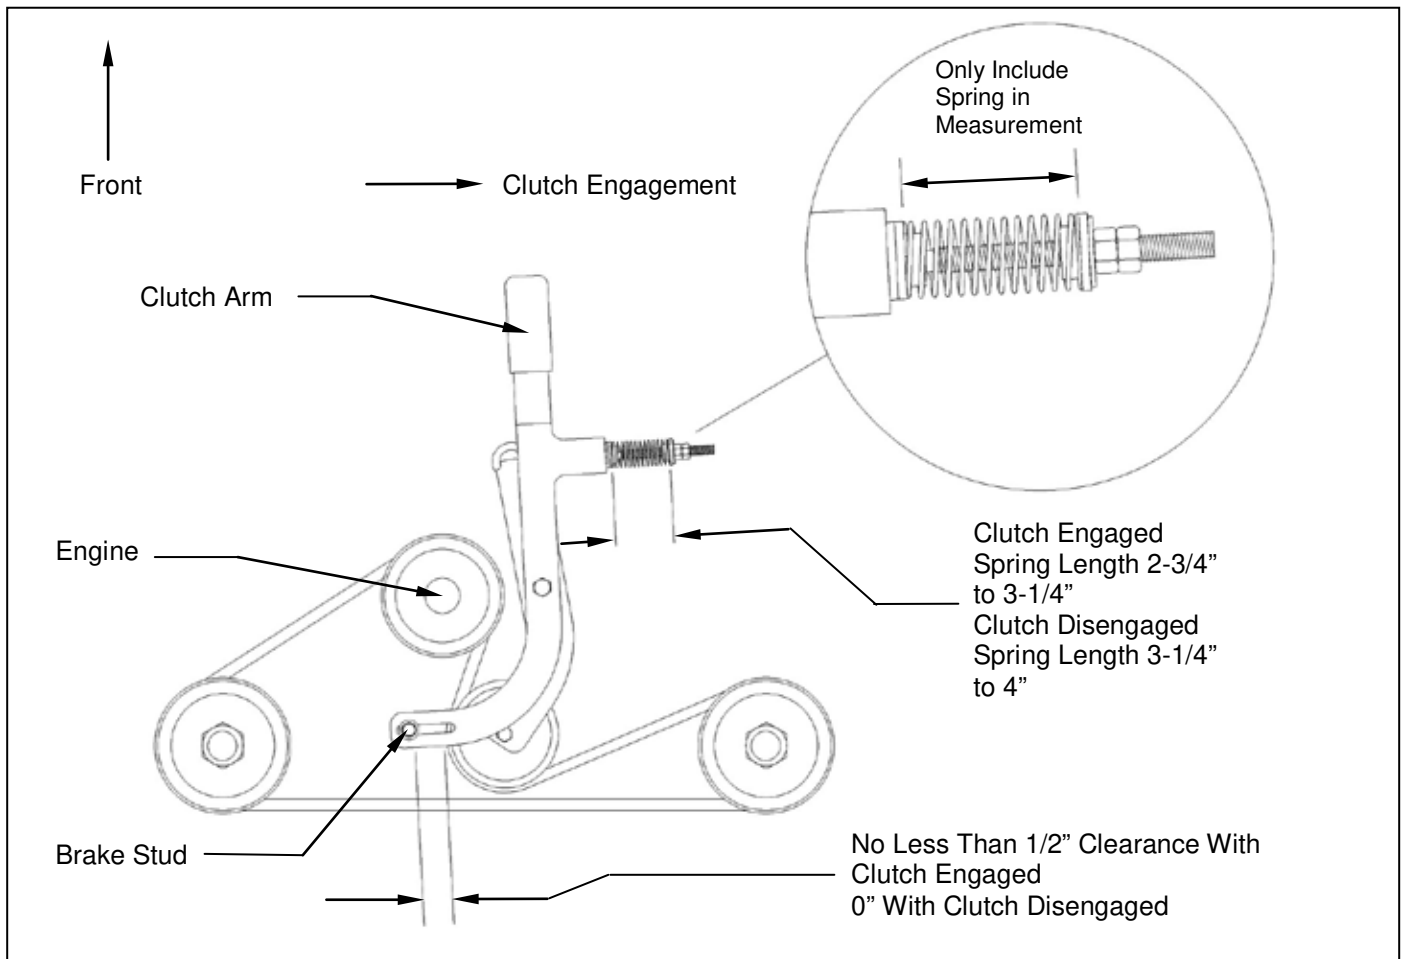

Figure 10: Belt Pattern, Spring Adjustment, and Brake Adjustment
F. **DRIVE BELT REMOVAL AND TENSION** – Refer to *Figure 10*
Install the new belt and then adjust the tension as follows: **See Figure 10.** Take special care to make sure that the belt is placed between the brake stud and the idler pulley.